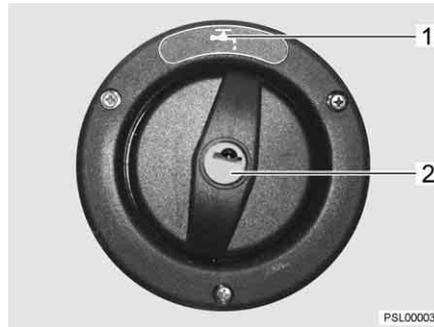

Fig. 201 Cap for the drinking water filler neck
The drinking water filler neck is indicated by the symbol "🔑" (Fig. 201,1). The cap is open and closed using the key for the external flap locks.
- Insert key into locking cylinder (Fig. 201,2) and turn a quarter turn in an anticlockwise direction.